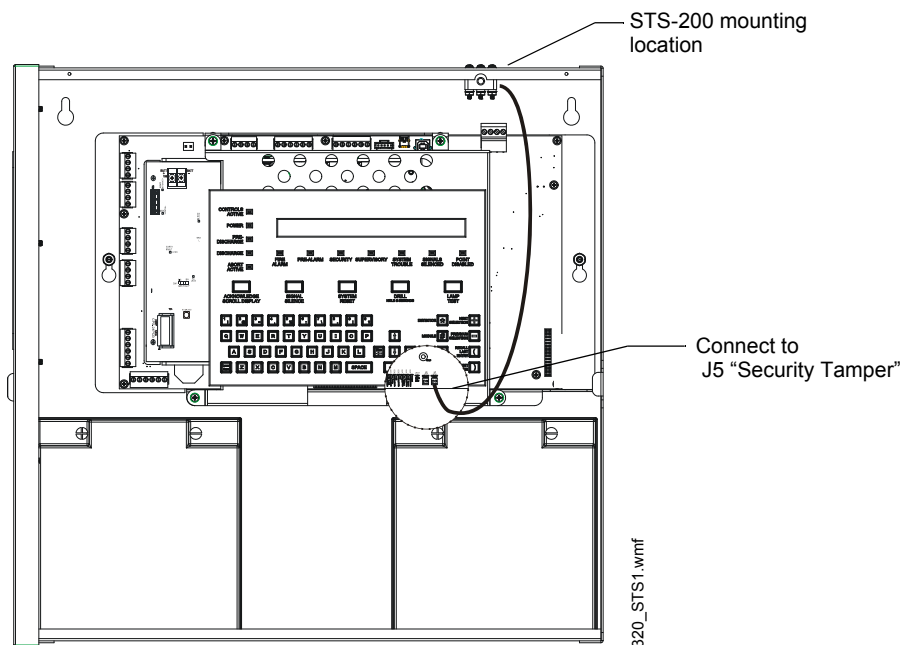

Figure 4.5 Installing the STS-200 Security Tamper Switch
To wire the cabinet with a Security Tamper Switch kit model STS-200, refer to Figure 4.5:
1. Install the STS-200 Tamper Switch into the location shown in Figure 4.5. Push the switch through the opening until it snaps into place.
2. Connect the STS-200 connector to J5 (Security Tamper) on the Control Panel. (As shown in Figure 4.5, J5 is located on the circuit board, underneath the edge of KDM-R2.)